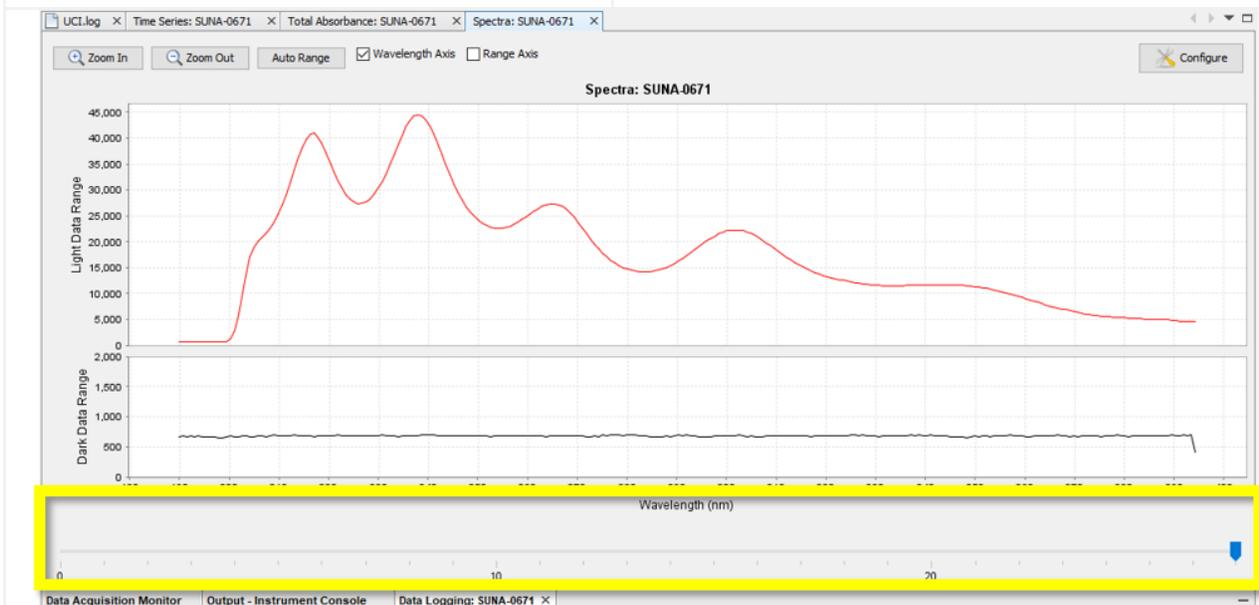

Figure 38. Collect Data for 1 Minute Monitoring the Wavelength Measurement
**STEP 2** | Collect data for 1 minute by watching the time interval at the bottom of the graph until it reaches 60 seconds (**Figure 38**).